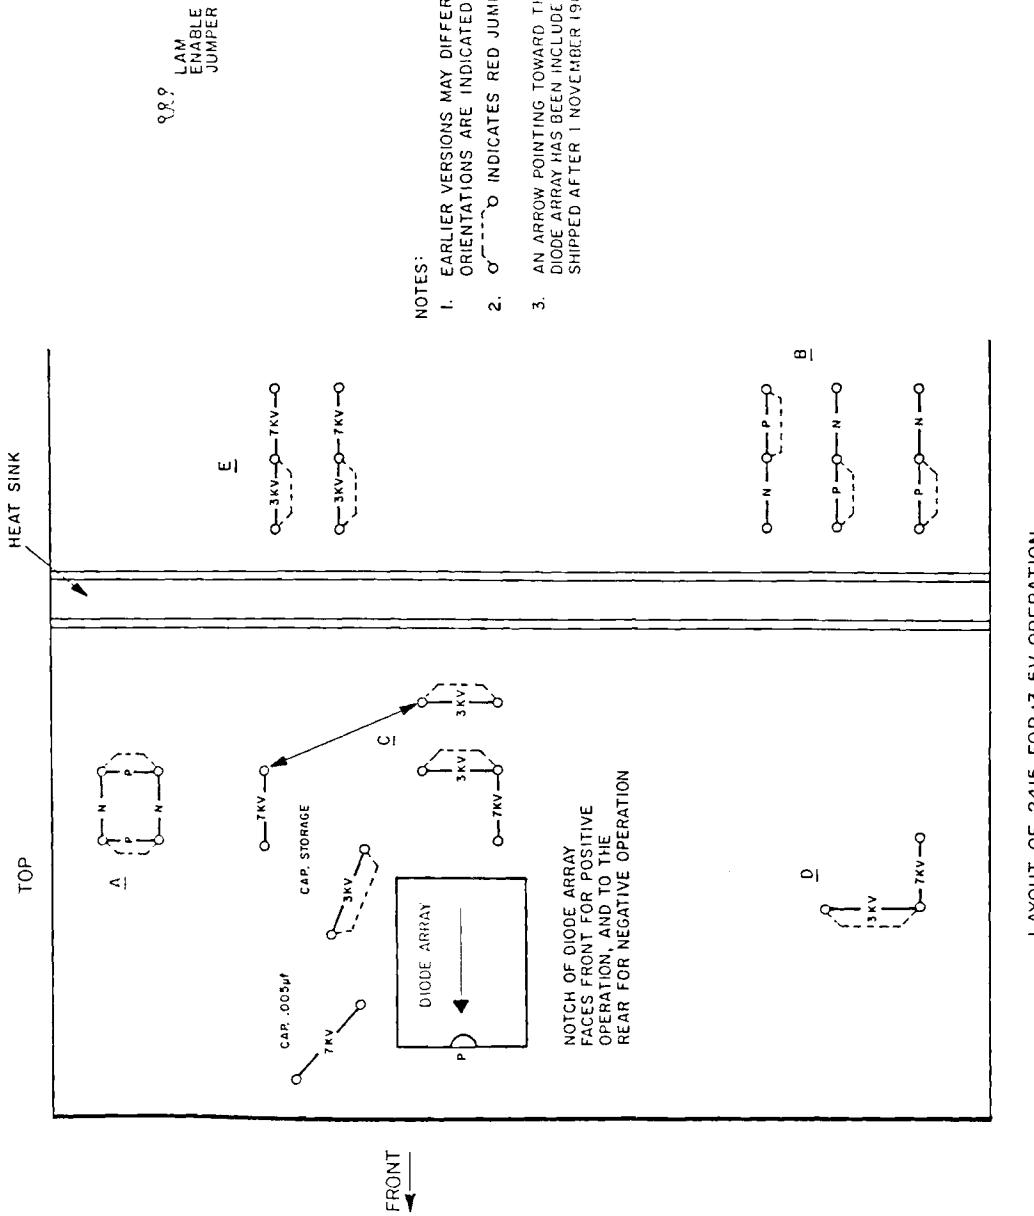

Figure 2.1
The REMOTE/MANUAL switch should be set to REMOTE for CAMAC operation. High voltage may still be enabled or disabled using the H.V. ON/OFF switch. The VOLTAGE and CURRENT LIMIT potentiometers act as hardware limits (as described in Section 2.1). A list of CAMAC commands and CAMAC Function Codes available for use with the 2415 is given in Table 1 at the end of Section 2. Note that Q=1 is returned for F(8) if an overload has occurred and for F(0) if there is valid data on the Read lines. If the user does not want the LAM to be set by an overload condition, then this feature may be defeated by moving the LAM Enable jumper (Figure 2.1).
2.4 Changing Operating Scales (see Figure 2.1)
1. Rotate diode array 180° so that the notch faces the front panel. A small P will be visible through the notch (Figure 2.1). Units shipped after 11/1/82 have an arrow on top of the diode array pointing toward this notch. The arrow should point toward the front of the unit when using positive high voltage and toward the rear of the module for negative output.
1. Change jumpers in positions C, D and E (Figure 2.1).